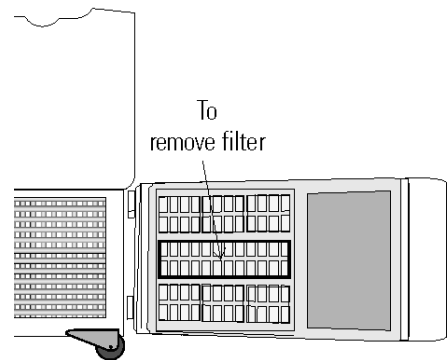

Figure 4-1. Grille with Filter Location
2. Locate the grille on the door. See Figure 4-1. Grasp the middle of the filter material behind the grille and gently pull out to remove.